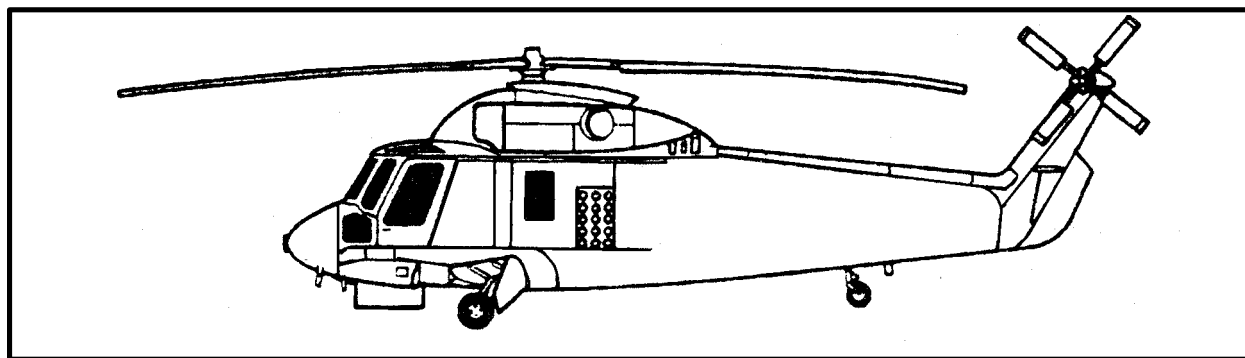

*Figure 2-5. SH-2F Cargo Hook*
(3) The cargo hook is normally opened electrically or manually by the aircrew. A manual release lever is located on the left side of the cargo hook. In an emergency, the ground crew can move the lever aft and the cargo hook will open.
(4) Due to the unique shear pin design of the cargo hook, a nylon donut/web ring must be used when sling loading. Do not attach the sling set metal apex fitting directly to the cargo hook.
**b. SH-2F.** The SH-2F Sea Sprite is a twin engine, single main rotor helicopter (Figure 2-4) manufactured by Kaman Aerospace Corporation. The cargo hook maximum capacity is 4,000 pounds and is mounted under the fuselage aft of the main landing gear (Figure 2-5). The cargo hook has a small throat opening between the load beam and keeper. Some sling equipment is too large to fit on the cargo hook. Coordinate with SH-2 unit to make sure your sling equipment will fit on the cargo hook. The cargo hook is normally opened electrically or manually by the aircrew. A manual release lever is located on the left side of the cargo hook. In an emergency, the ground crew can move the lever aft to open the cargo hook.